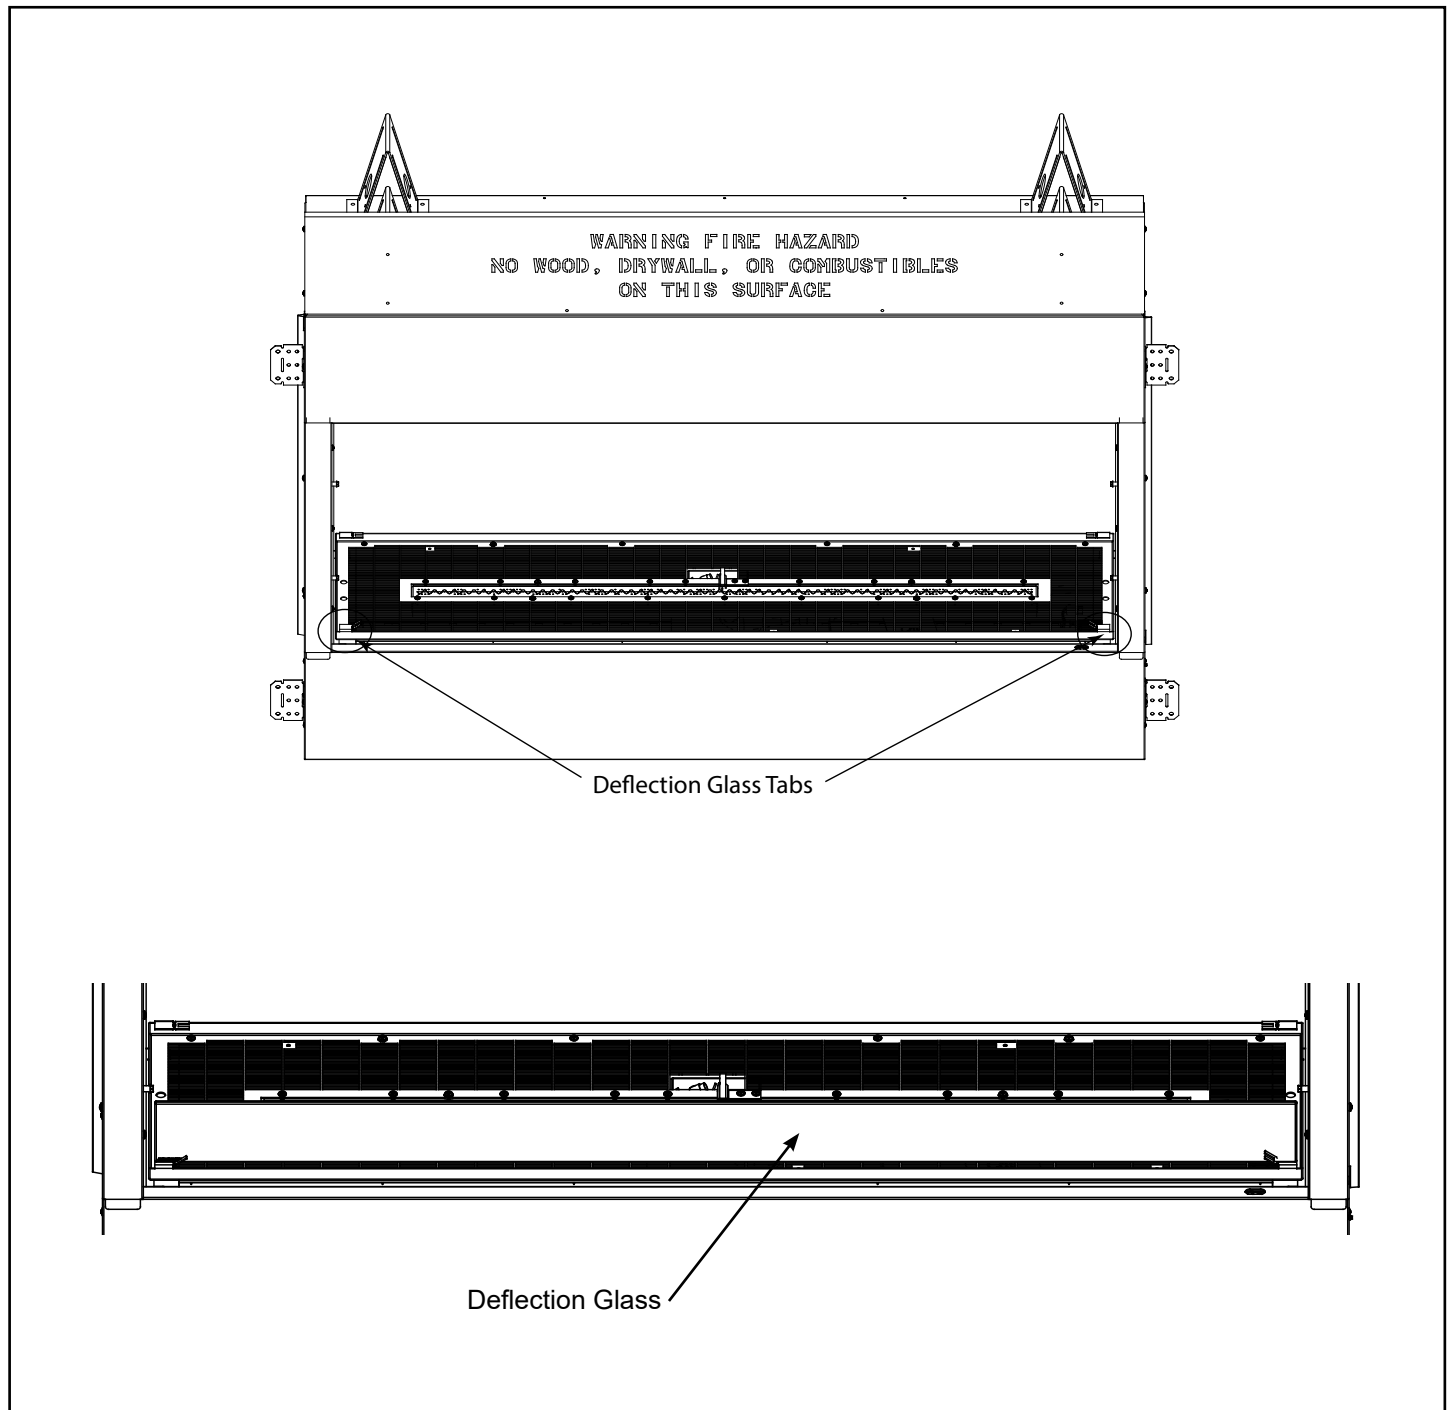

Figure 3.5 Air Deflection Glass
- Ensure that the air deflection glass is seated in the proper position. See Figure 3.5.